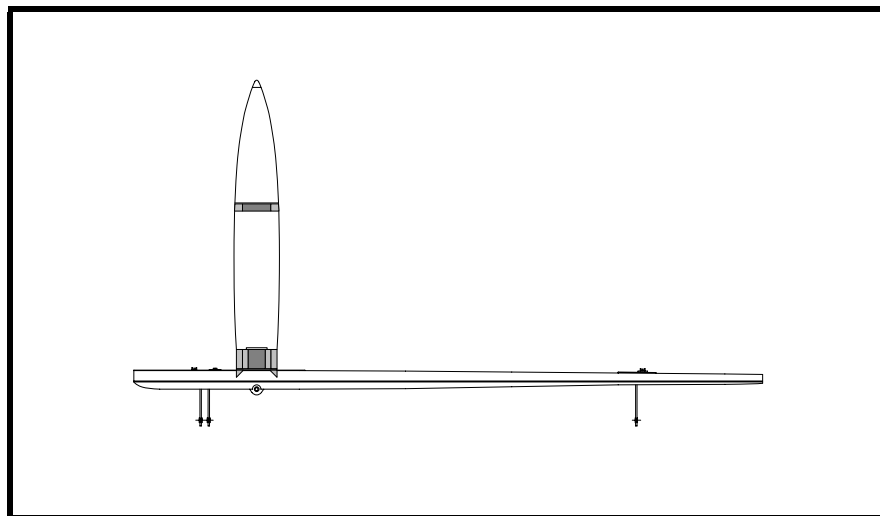

Figure 2
them in place and then cut off the excess. These strips are shown on Drawings No. 413 and 415, which are very accurately drawn. Thus, we suggest that you take the necessary measurements from these drawings. See Figure 2, Chapter 19.
- ❑ Join the main fin spar to the main stabilizer spar, but do not glue at this time. See Figure 2. The bolts for the stabilizer hinges will hold things in place.